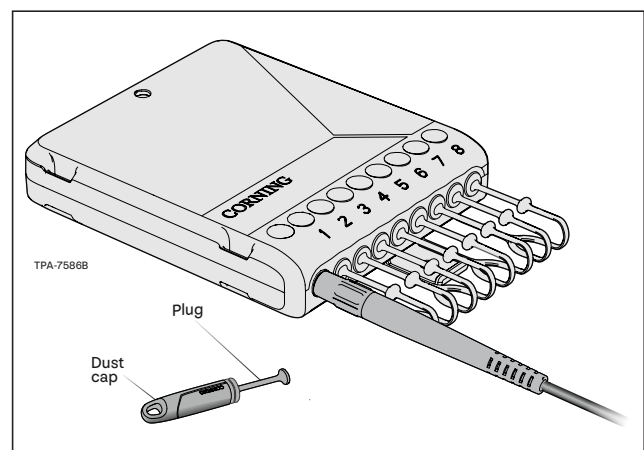

Figure 25
**Step 7:** Connect the terminal port dust plug with the connector dust cap (Figure 25).